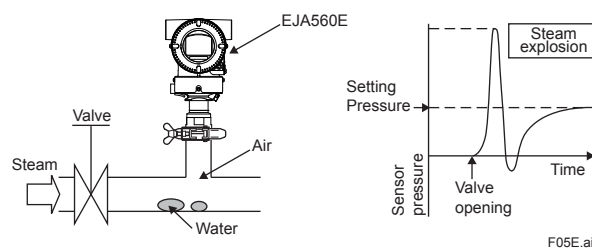

Figure 4. Steam Explosion by Steam and Water Contact
- Steam explosion by steam and water contact (Figure 4)